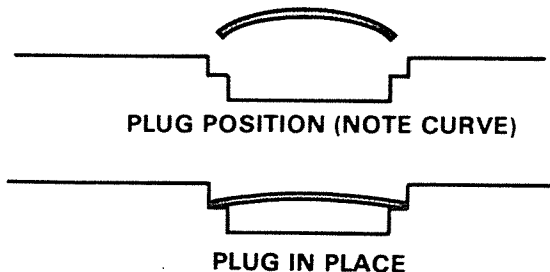

Figure 17. Inserting Welch Plug.
A. Insert plug convex side up. Figure 17.
DO NOT depress plug too far. Figure 17.